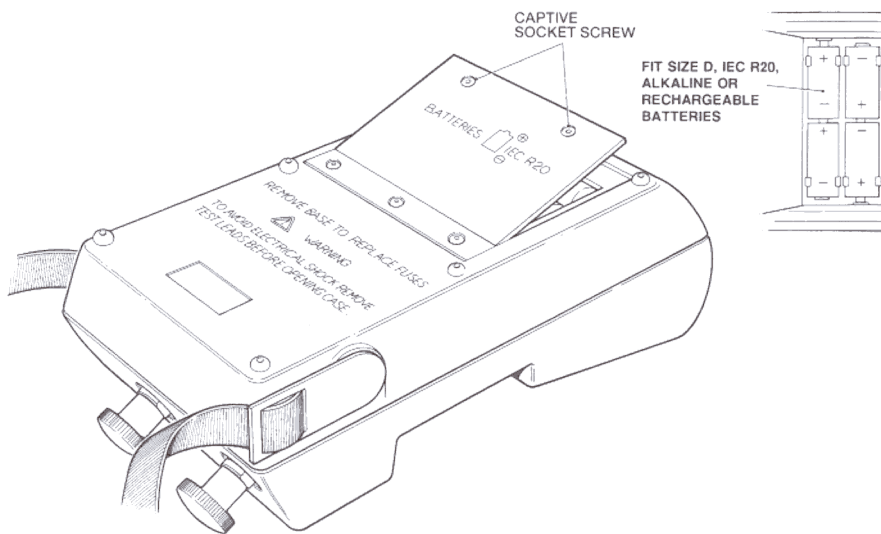

Figure 2.1 - Battery Compartment
2.1.1 Fitting Batteries (Figure 2.1)
To fit the batteries, refer to Figure 2.1 and proceed as follows.
- Fit the batteries as shown in Fig 2.1 observing the polarity indicated.